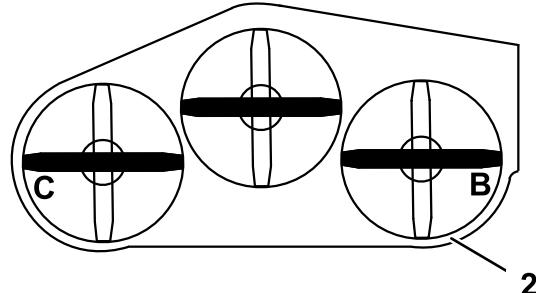

Figure 81
4. Measure at the **B** and **C** locations from a level surface to the cutting edge of blade tips (Figure 81).